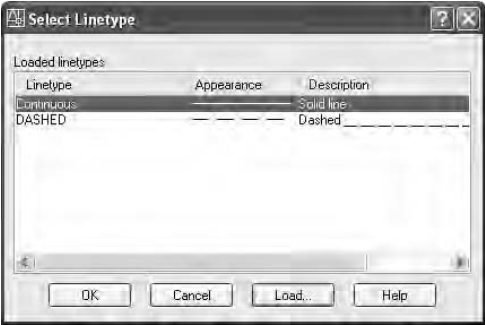
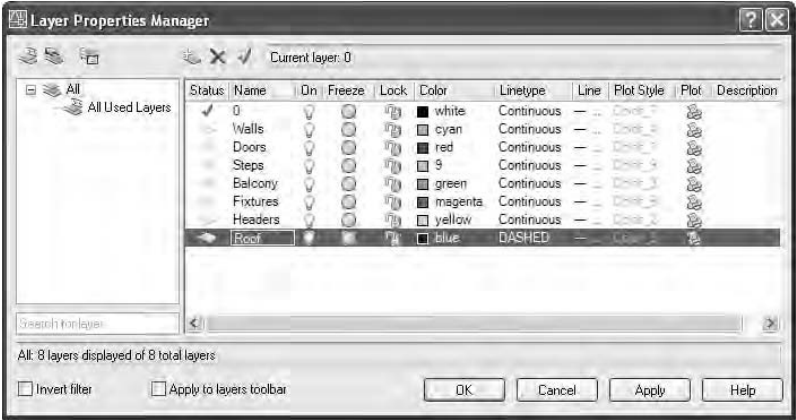

FIGURE 6.11: The Select Linetype dialog box with the Dashed linetype loaded
FIGURE 6.12: The Layer Properties Manager dialog box with the Roof layer assigned the Dashed linetype
- 3. Click the word *Dashed* in the left column, and then click OK. You are returned to the Select Linetype dialog box. The Dashed linetype has been added to the Linetype list under Continuous (see Figure 6.11). Click Dashed to highlight it and click OK. In the Layer Properties Manager dialog box, the Roof layer has been assigned the Dashed linetype (see Figure 6.12).